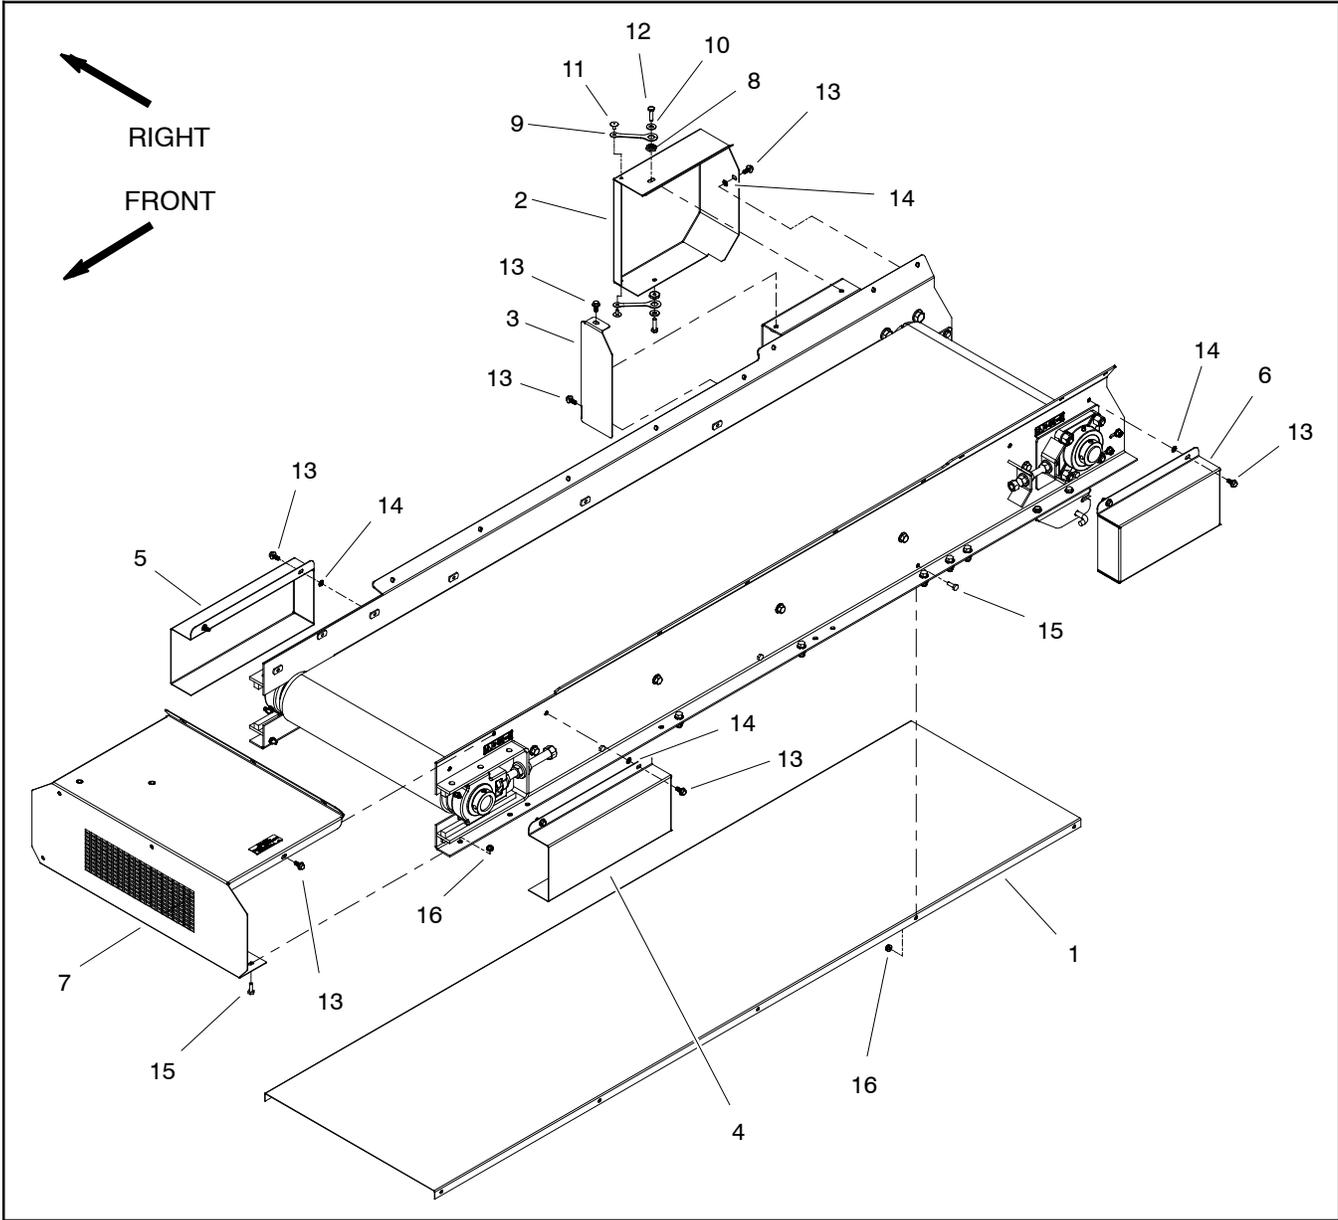
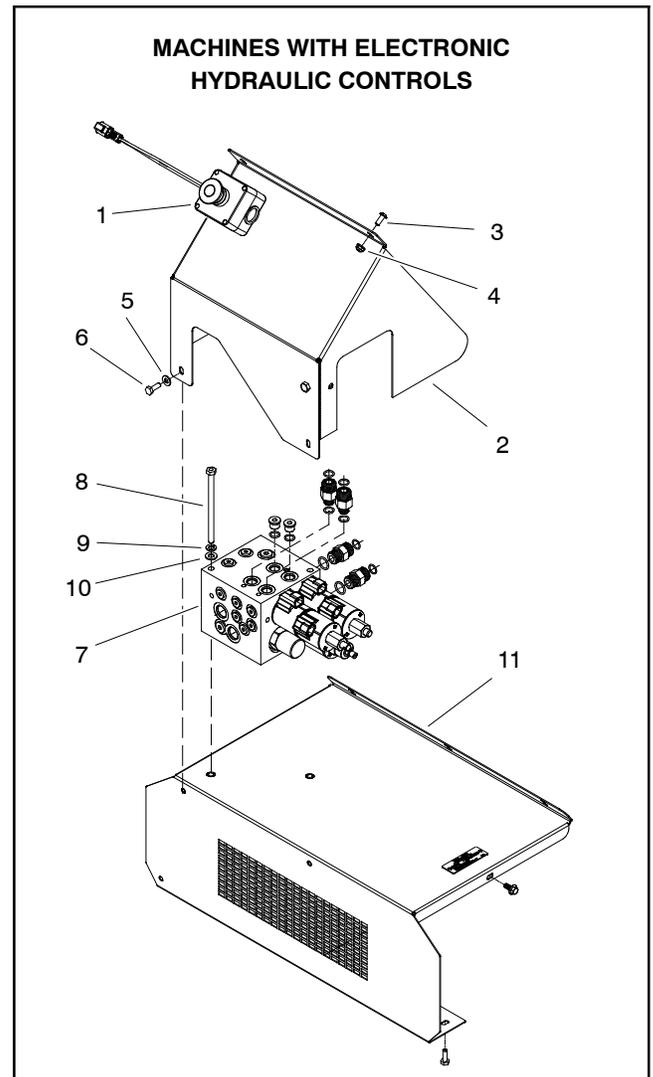

Figure 1
Figure 2
Disassembly (Fig. 1)
2. If front rinse guard is to be removed from machine with electronic controls (Fig. 2):
C. Remove the two (2) cap screws, lock washers and flat washers that secure hydraulic control manifold to rinse guard.
3. Using Figure 1 as a guide, remove necessary bed guards from frame to allow access to floor drive components.
Assembly (Fig. 1)
1. Secure all removed bed guards to frame using Figure 1 as a guide.
2. If front rinse guard was removed from machine with electronic controls, secure hydraulic manifold, control panel guard and E-stop button to machine (Fig. 2).